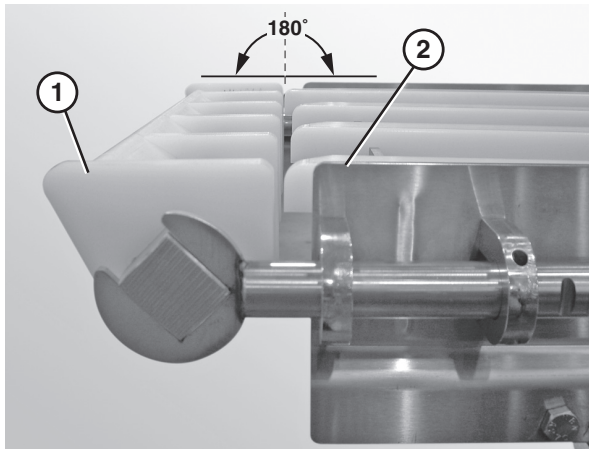

Figure 10
3. Ensure that the nose bar pucks (Figure 10, item 1) are in line with the conveyor frame (Figure 10, item 2).